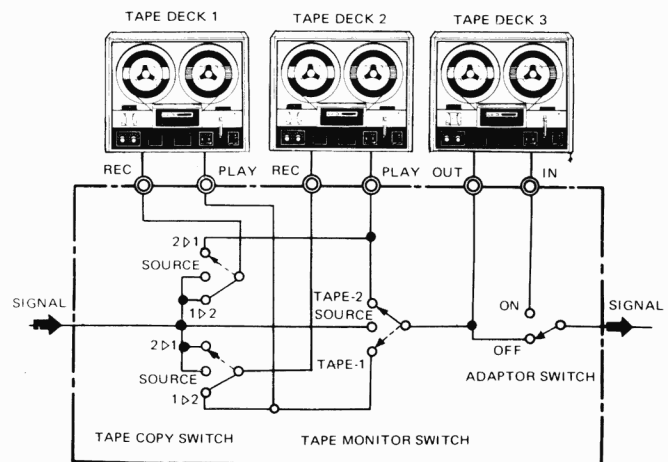

Fig. 12
1. Connect the two tape decks as shown in Fig. 12.
4. When recording with tape deck 1, the TAPE MONITOR switch should be set to TAPE 1 to monitor the sound being recorded. And when recording with deck 2, set the TAPE MONITOR switch to TAPE 2 for monitoring (refer again to Fig. 12).